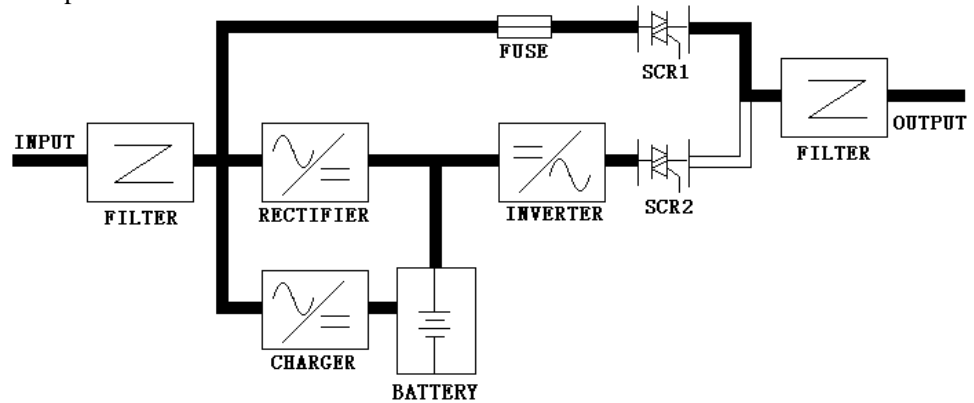

fig33
1) UPS normal running method under bypass mode, as fig33